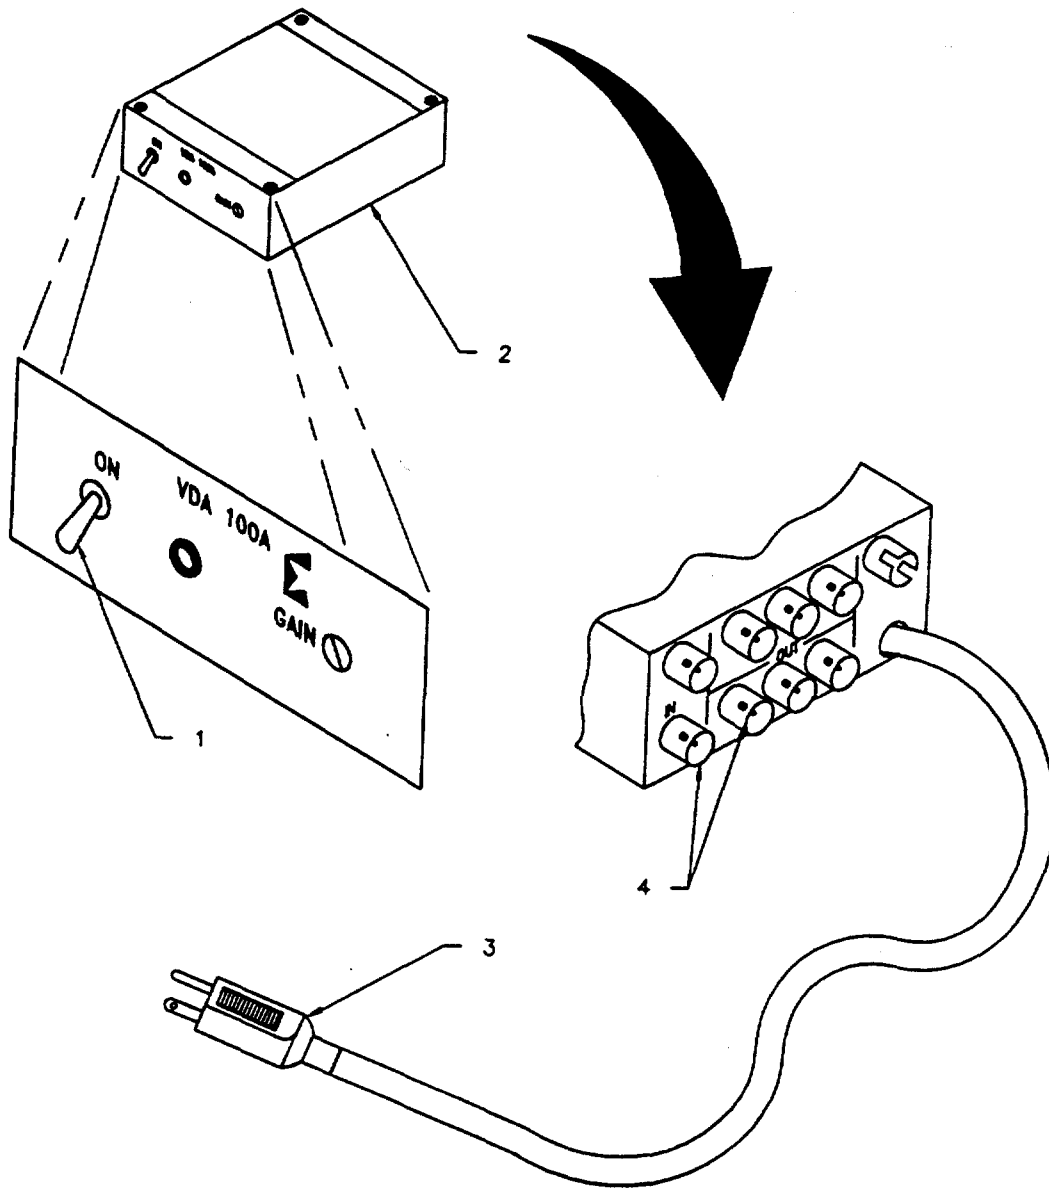

Figure 3-53. Removal and Replacement of CCTV Video Sync Amplifier
**3-101. REPLACE CCTV VIDEO SYNC AMPLIFIER. (Figure 3-53).**